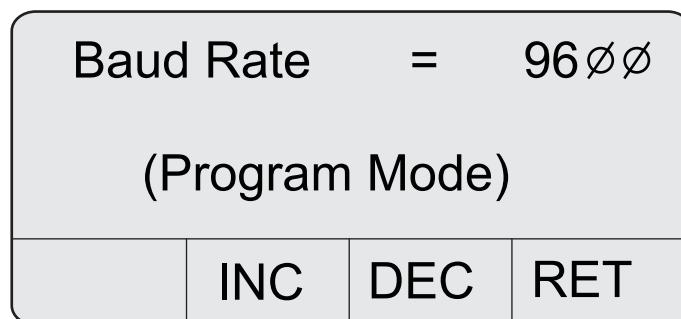

Figure 44 Baud rate screen
2. Press 2 (NXT) twice to display the Baud Rate screen (refer to Figure 44).